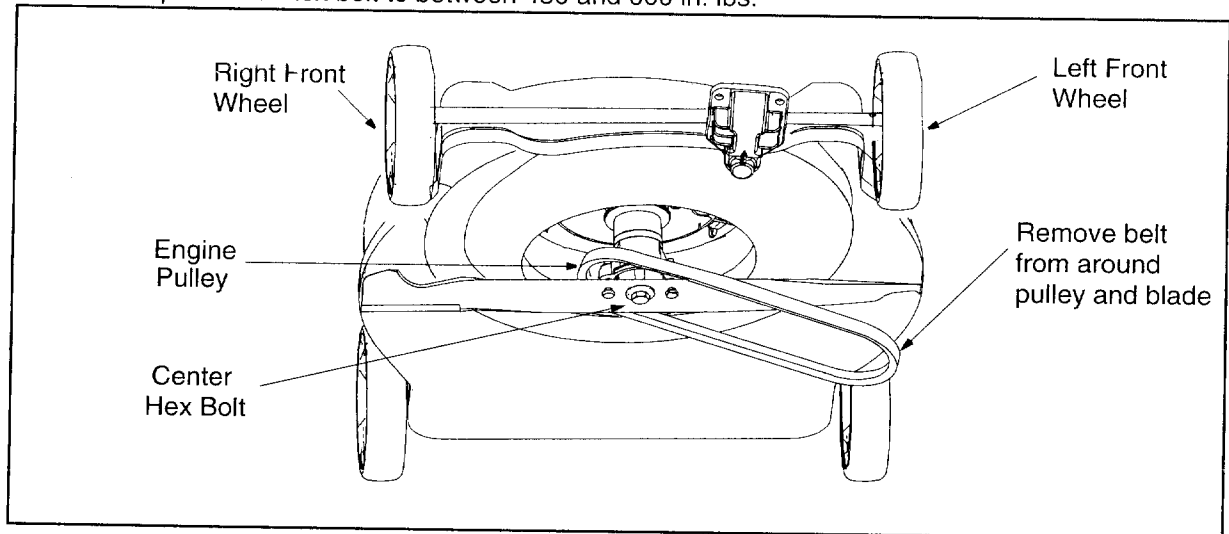

FIGURE 21
- Remove the belt from the engine pulley and around the blade. See Figure 21.